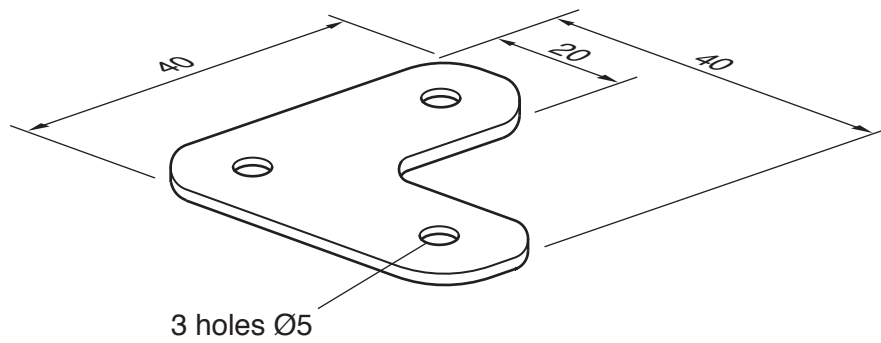

Fig. 2
- 6 Fig. 2 shows a link from a simple mechanism. The link is made from 2 mm thick mild steel.